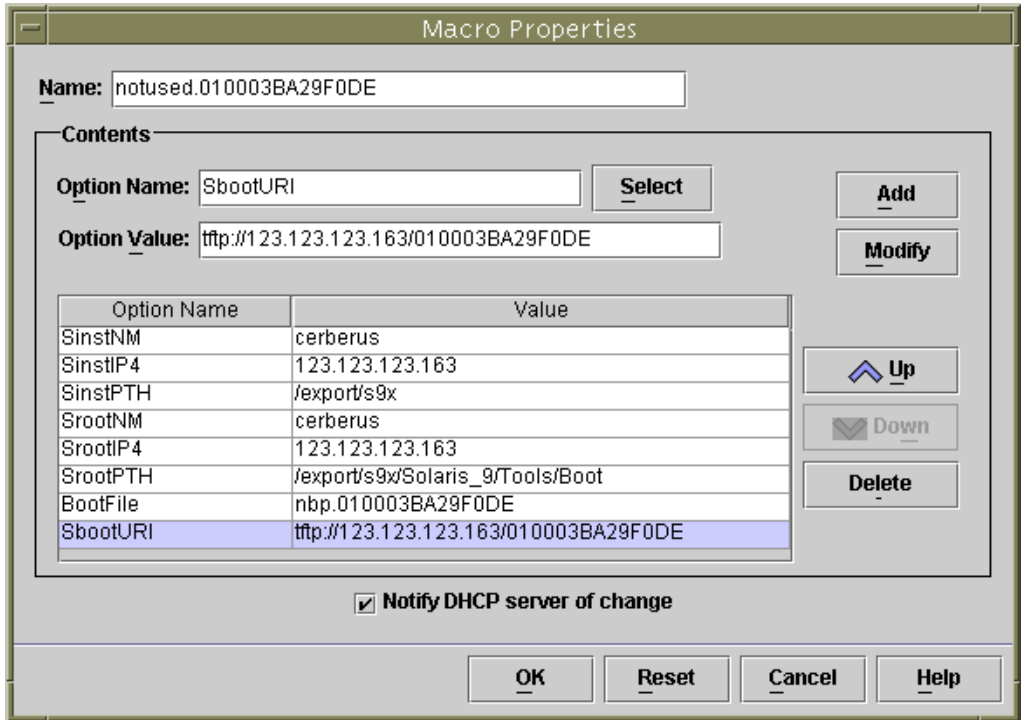

FIGURE 13-1 Changing the Name of the Blade's Macro to Stop it From Booting Solaris x86
- d. In the **Macro Properties** window, rename the macro by changing the contents of the name field (see FIGURE 13-1).